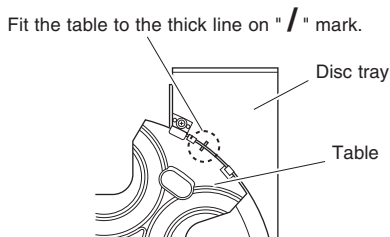

Fig. 5
- c. Install the table by aligning it to the thick line on "/" mark. (Fig. 5)